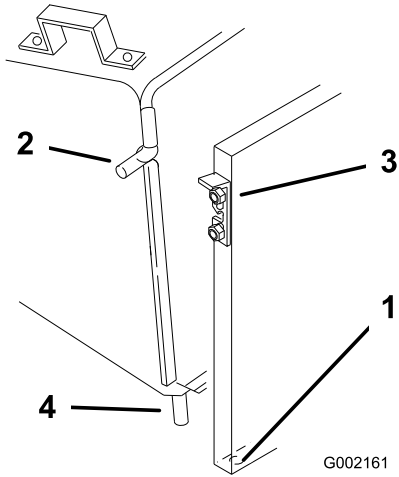

Figure 13
6. Insert the lower pins of the bagger frame into the holes on the back plate (Figure 13).
7. Lift the latches and slide the frame side pins into them (Figure 13).
4. Insert the lower pins of the bagger frame into the holes in the back plate (Figure 13).
5. Lift the latches and slide the frame side pins into them (Figure 13).
5. Insert the lower pins of the bagger frame into the holes in the back plate (Figure 13).
6. Lift the latches and slide the frame side pins into them (Figure 13).